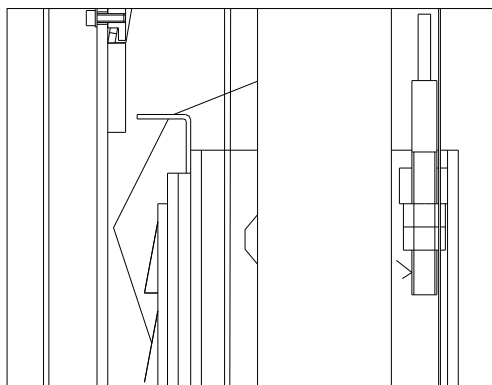

Fig. 16
- ◆ Keep both cables in balance during raising or lowering. (*Fig. 16*)